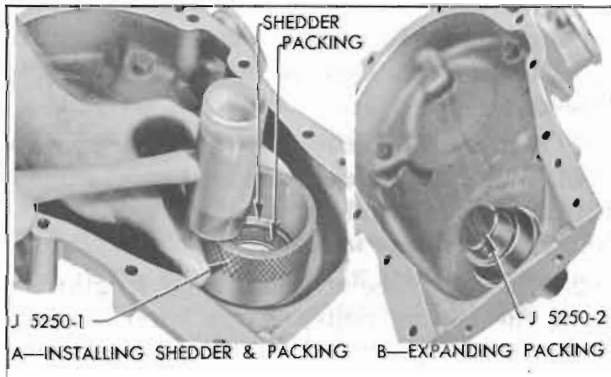

Figure 2-29—Installing Crankshaft Oil Seal
2. Work new packing into the shedder, then drive shedder into recess in timing chain cover, using Installer J 5250-1. See figure 2-29, view A.
3. Push Packing Expander J 5250-2 through the seal to expand the packing into place and size the opening for the crankshaft. See figure 2-29, view B. Apply a light coat of vaseline to the packing.